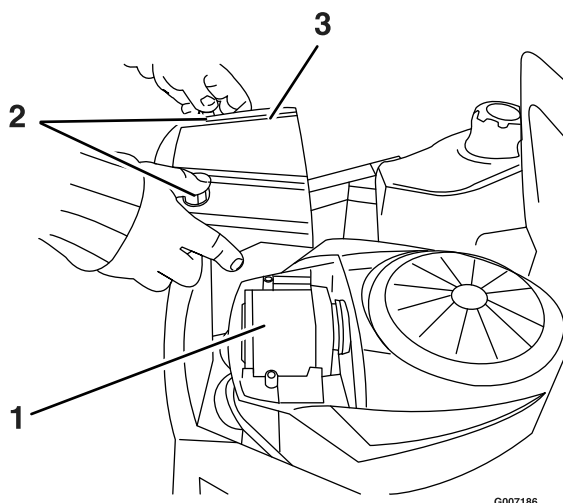

Figure 18
1. Remove the air cleaner cover (Figure 18).